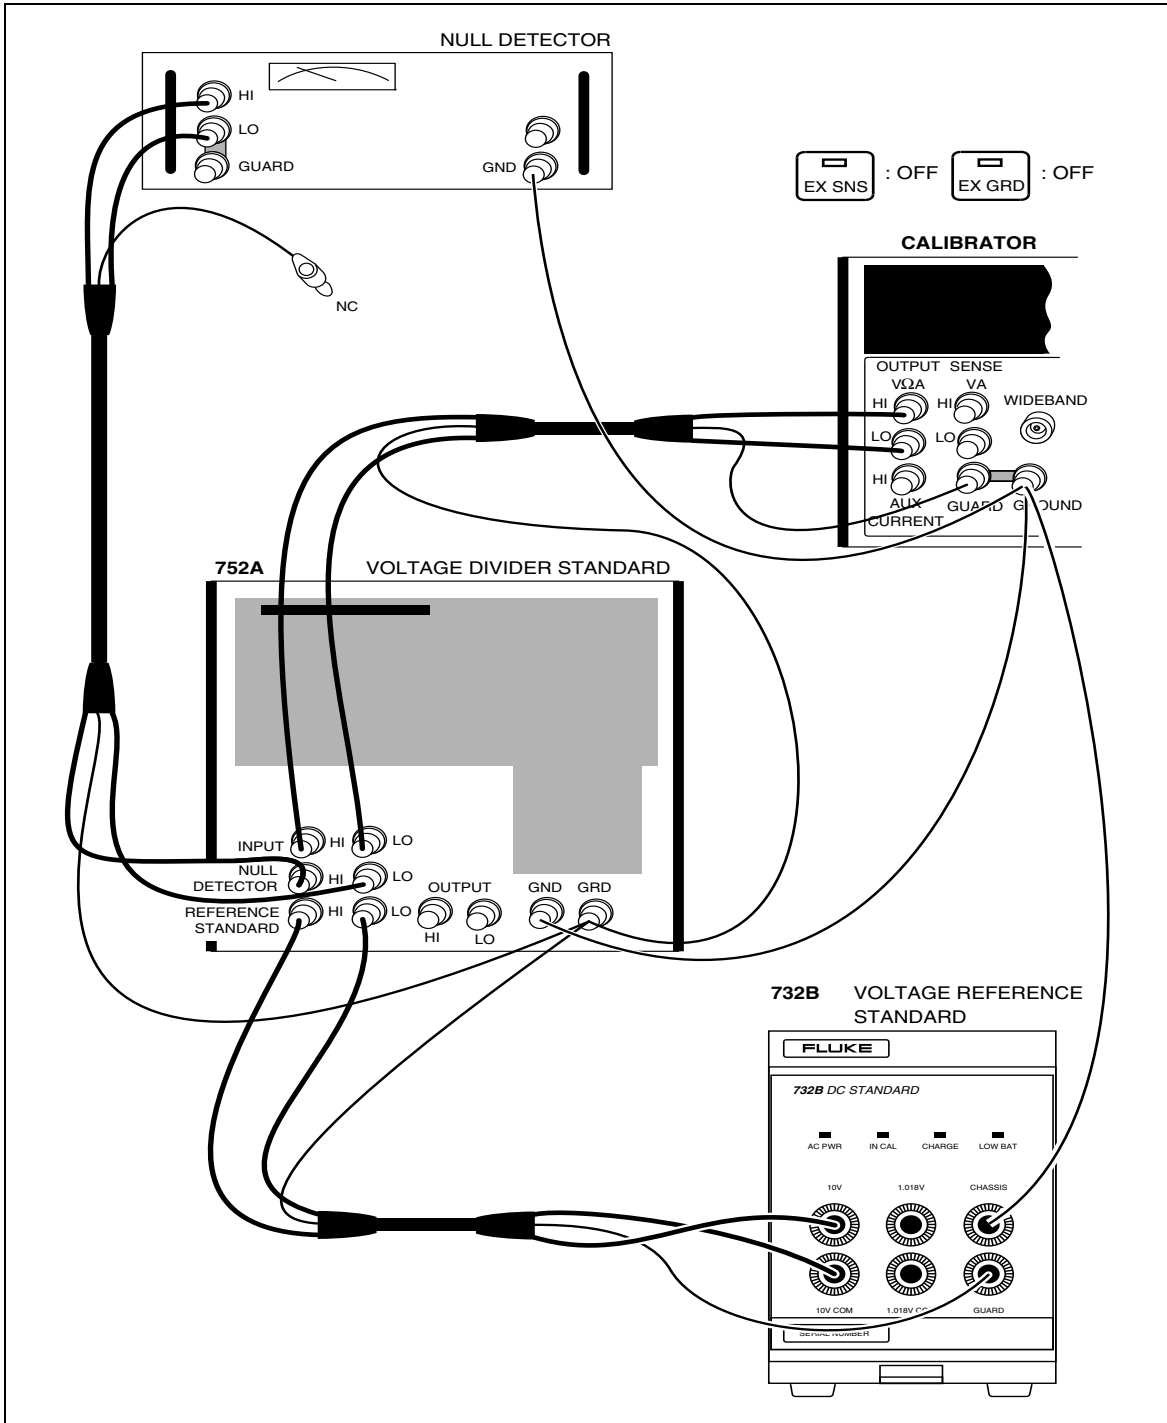

Figure 3-3. 220V DC Range Calibration Connections
6. Connect the 732B, null detector, and 752A in a 10:1 configuration, as shown in Figure 3-3.